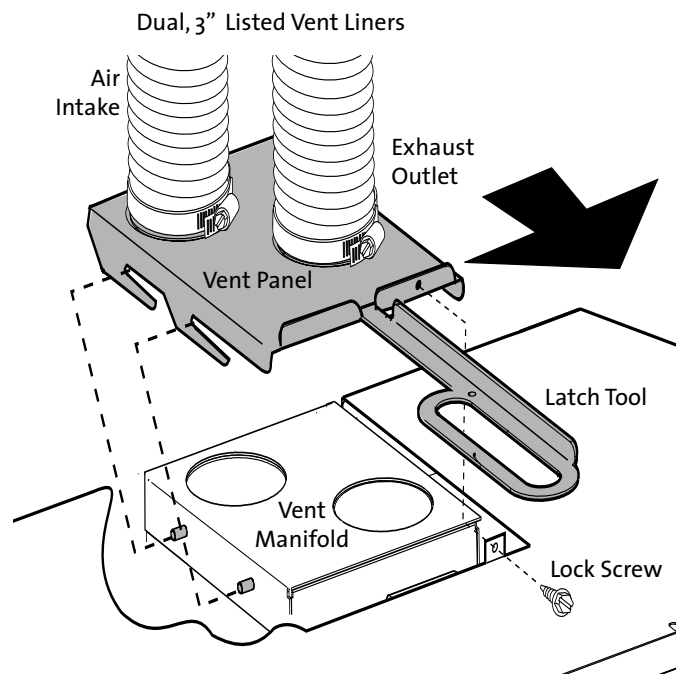

Figure 6.3. Vent connection.
1. Refer to fig. 6.3. Remove the Lock Screw from the Vent Adaptor Panel and detach the panel from the firebox. Retain the screw for reinstallation.